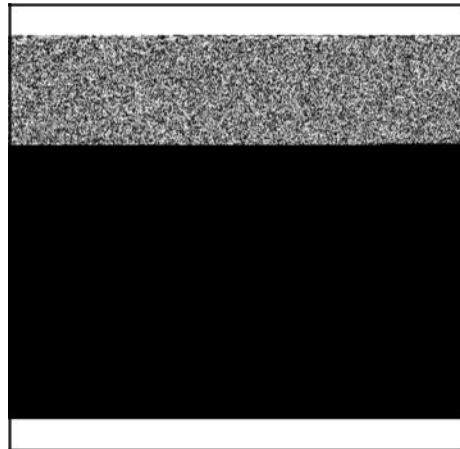

Figure 18
1. Insert RED test lead (A, Figure 18) into the V Ω receptacle and set the rotary switch to Diode position.
2. Insert BLACK test lead (B) into the COM receptacle in the meter.
3. Attach RED test lead clip to (C) and Black test lead clip to point (D). (It may be necessary to pierce wire with a pin as shown.)